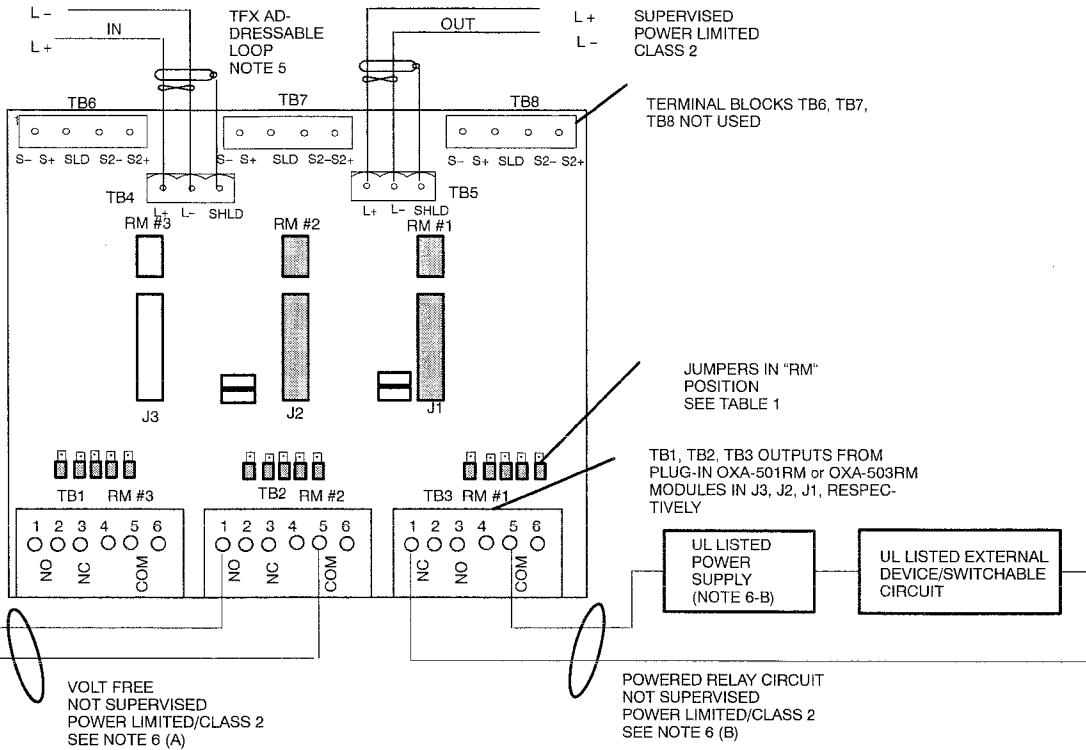

Figure 2. Typical wiring diagram for two OXM-501RM or OXA-503RM relay modules.
6. Wiring to OXA-501RM or OXA-503RM relay terminals (see Figure 2):